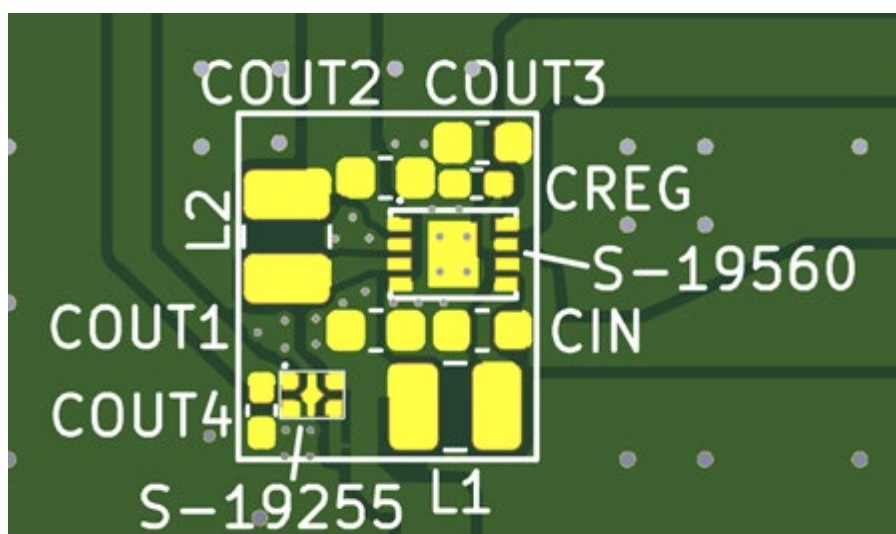

Figure 8 Board Layout Example (Enlarged)
- In the board layout example in **Figure 8**, the distance between the S-19255 Series input and COUT1 is shortened in order to omit the input capacitor for the S-19255 Series. If the S-19255 Series will be installed in a more distant location, add an input capacitor for the S-19255 Series.